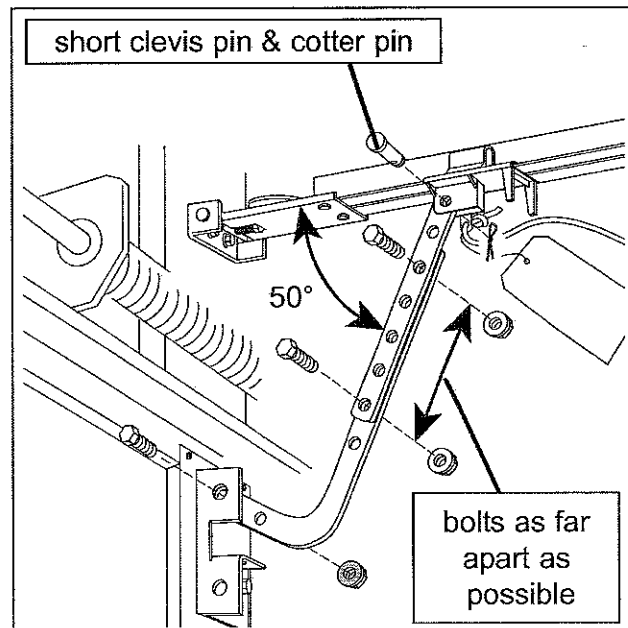

FIG. 2-9 Attaching door arms.
- Fasten curved door arm to door bracket using bolt and locking nut. (Fig. 2-9).
- Fasten straight arm to carriage using clevis pin and cotter pin. (Fig. 2-9).
- With the arms arranged in this position, fasten arms together using bolts and nuts spaced as far apart as possible (Fig. 2-9).